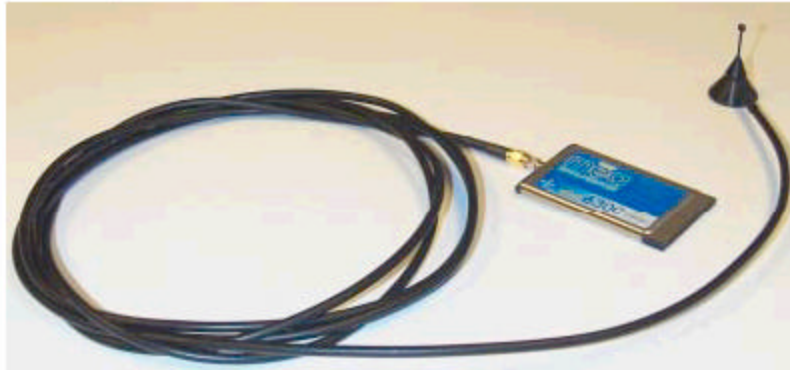

Figure 13. Attach Magnetic Mount Antenna to the WMC6300
3. Insert the Antenna's Cable Connector into the WMC6300 antenna port as shown in Figure 13. **Note:** The connector will "snap" into place when fully inserted.